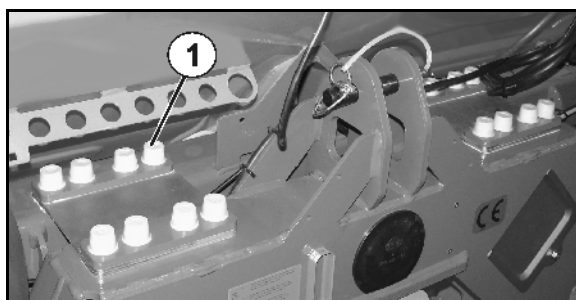

Fig. 54
- 2 x 8 screws of the leaf springs (Fig. 54/1)